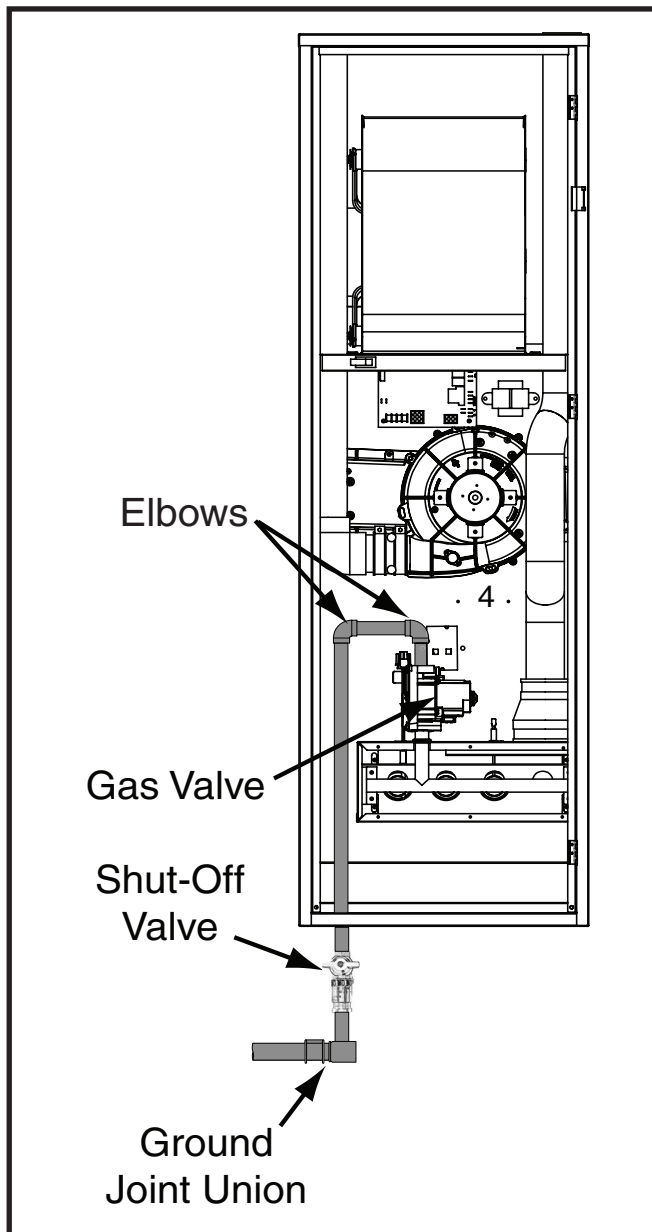

Figure 12. Typical Gas Connections
- Some local regulations require the installation of a manual main shut-off valve and ground joint union external to the furnace as shown in Figure 12. The shut-off valve should be readily accessible for service and/or emergency use. Consult the local utility or gas supplier for additional requirements regarding placement of the manual main gas shut-off.
The furnace is installed with a bottom gas entry. When connecting the gas supply, provide clearance between the gas supply line and the entry hole in the furnace casing to avoid unwanted noise and/or damage to the furnace. Typical gas hookups are shown in Figure 12.